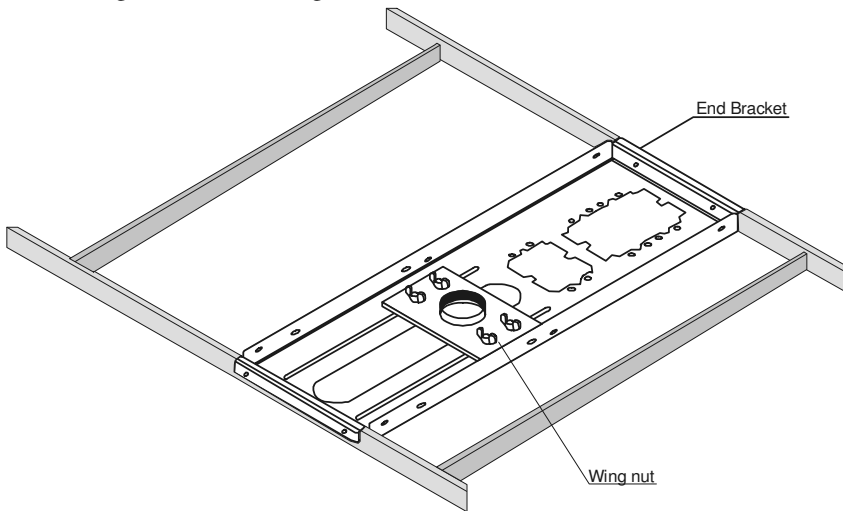

Figure 16: Installing the SV-2 Ceiling Platform
7. Loosen the four **SV-CL** Column support wing nuts on the upper side of the tray (see Figure 16).